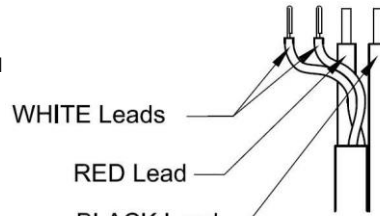

Figure 2 – Connection of battery leads and temp sensor to terminal block.
- 11) Connect the free Positive and Negative terminals of the batteries to the PCB terminals Batt+ and Batt - using the cables provided. See Figure 2.
- 12) If the batteries are housed remotely, replace the battery lead assembly (including battery temperature sensor) with an extended length assembly (Part BAT-LD-T-24-300). Ensure the temperature sensor and battery connections are made according to figure 2.